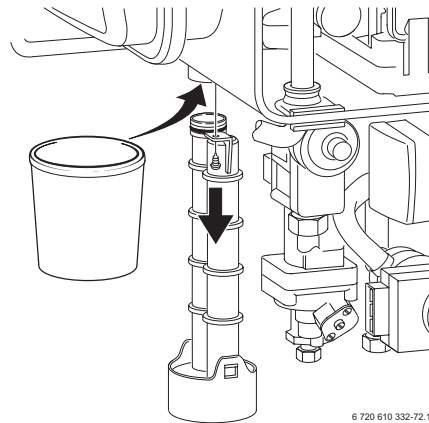

Fig. 49
- Unscrew condensation trap and place suitable container underneath. Refer to fig. 49.
In order to prevent spillage of condensate, the condensation trap should be completely removed, (see page 34, fig. 49).